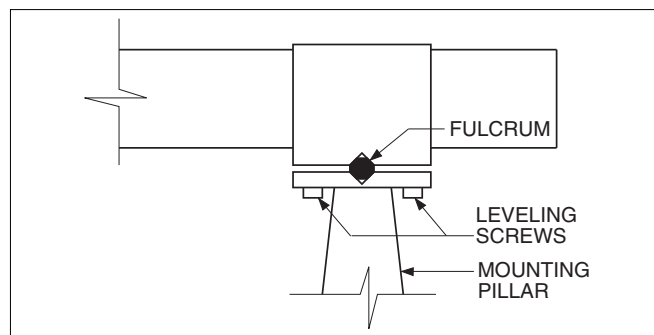

Figure 4 Leveling the Telescope and Collimator
1. The telescope and collimator pivot about a fulcrum on their respective mounting pillars (See Fig 4). Use the aluminum rod provided with the accessory equipment to adjust the leveling screws. Loosen one as the other is tightened until the unit is level and secure.